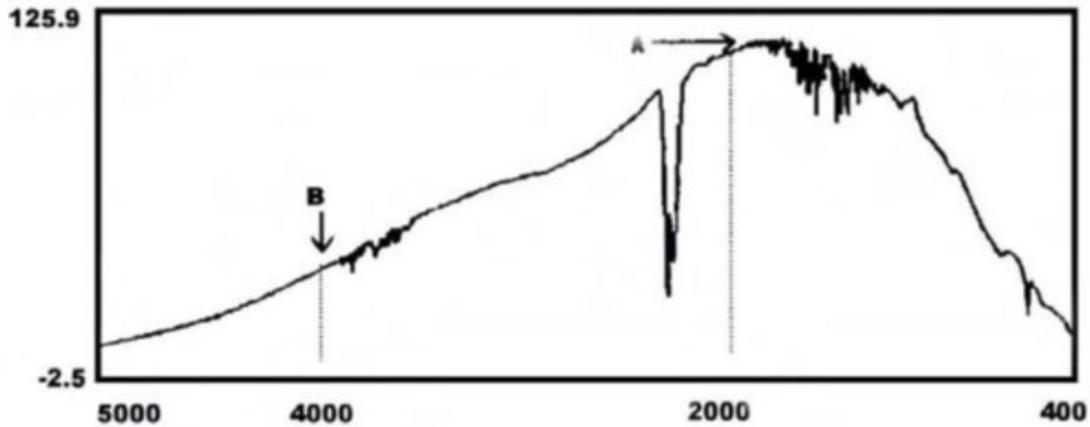

Figure 81. Correct Background Spectrum
You evaluate the spectral balance using a Background spectrum. A Background spectrum is provided in "Background Scan" Figure 70. It should look like Figure 81, having the same overall shape and peaks.
- 1) Compare your Background spectrum to the spectrum shown in Figure 81. Note the intensity of region A (2000 cm⁻¹) and region B (4000 cm⁻¹)